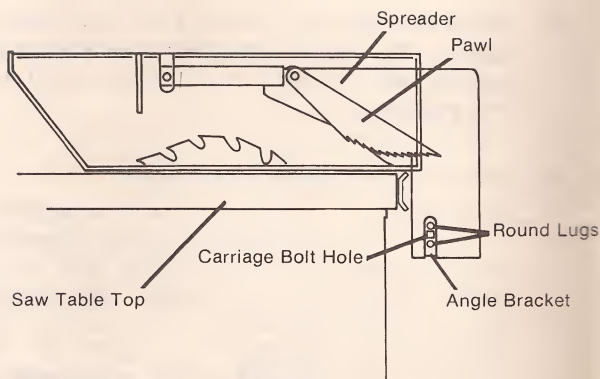

Figure 27
- Remove the wing nut and washer (shown in **figure 26**) from the bracket and install the Spreader and Guard Assembly over the Carriage Bolt so that the two round lugs on the Angle Bracket fit into the vertical slot on the Spreader as shown in **figure 27**. When installing the Spreader and Guard Assembly, make certain that the sides of the plastic guard are positioned on both sides of the saw blade.